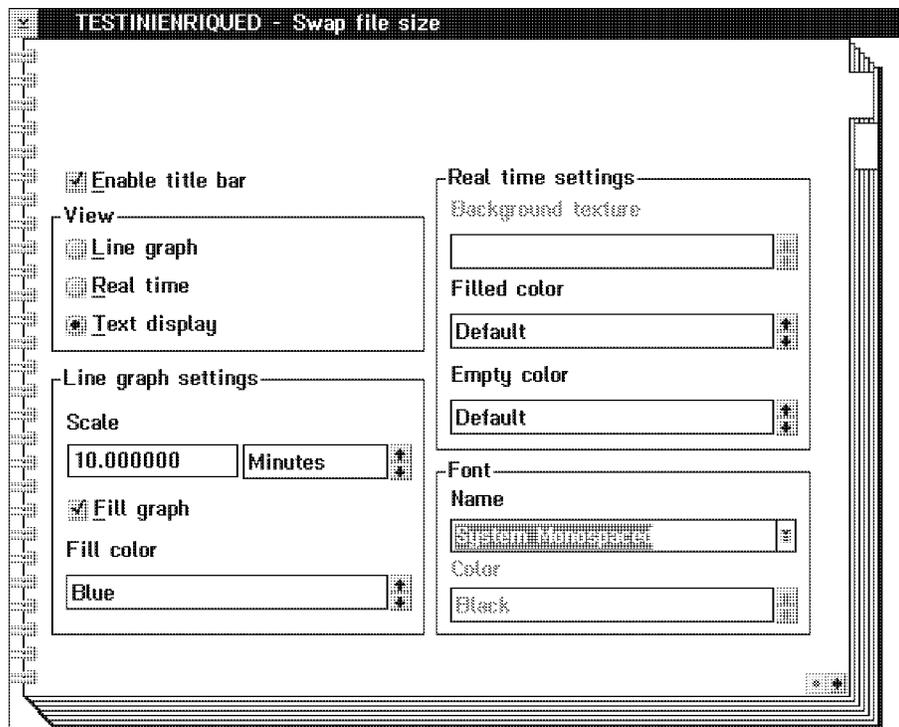

Figure 55. Monitor-Specific Settings
- **Open & Settings**— Change System Monitor settings (see Figure 55 on page 66).
Using the Monitor Configuration Notebook, you can configure (see Figure 55 on page 66):